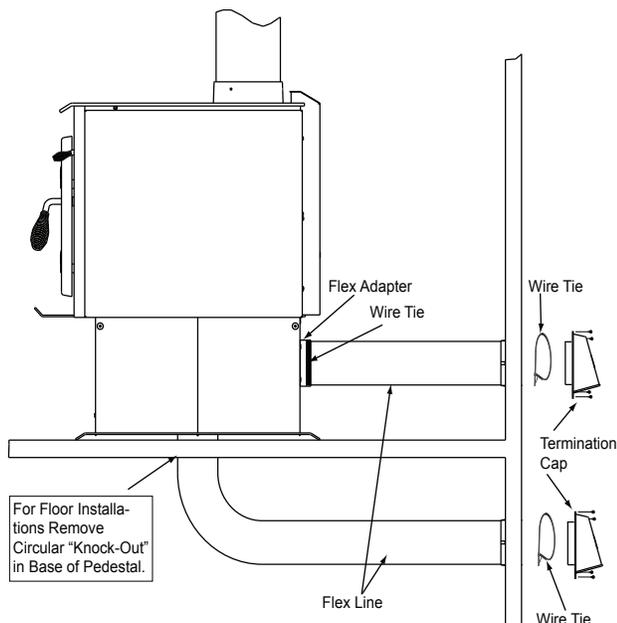

Figure 38.1 - Floor & Rear Installation
2. Using a #2 Phillips screw driver attach the flex adapter to the appliance using 4 screws. Secure with wire tie (**Figure 38.1**).
5. **Floor Installation Alternative:** In some instances you may not be able to install the flex pipe as show in **Figure 38.1**.